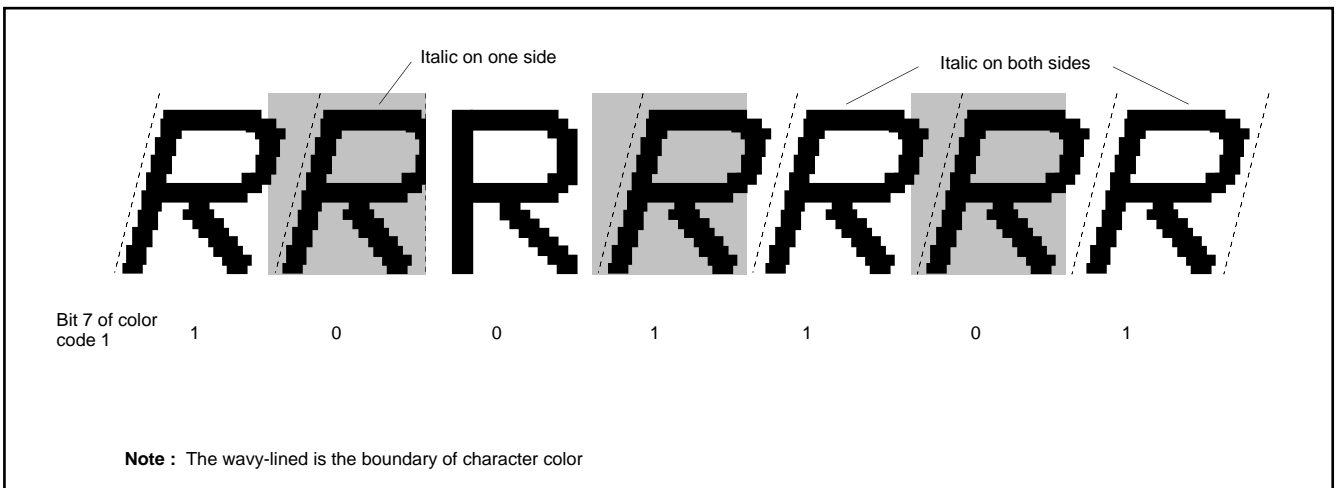

Fig. 69. Example of italic display
- 3: The boundary of character color is displayed in italic. However, the boundary of character background color is not affected by the italic (refer to Figure 69).
- 4: The adjacent character (one side or both side) to an italic character is displayed in italic even when the character is not specified to display in italic (refer to Figure 69).
④ Extra font